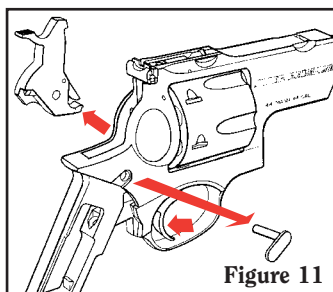

Figure 11
5. Hold the trigger in the rearward position and *lightly* strike the pivot pin to release it from the frame. Lift the hammer out of the top of the frame while the trigger is held in a rearward position (see Figure 11).